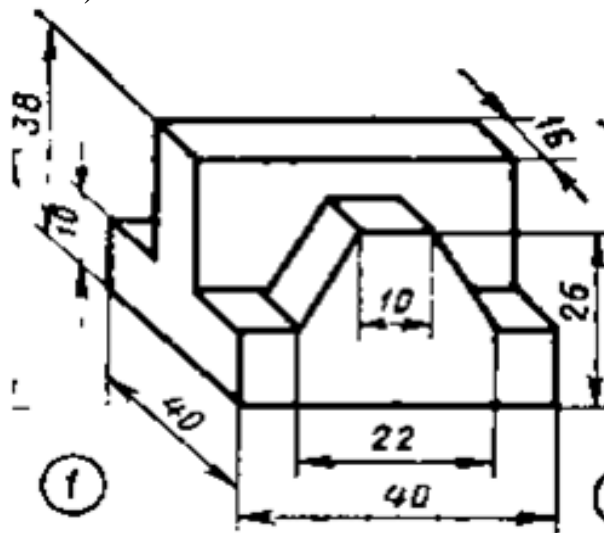

Figure 5.1 – Isometric part model
5.2.2 In the course of the drawing, we use such AutoCad commands as "Circle", "Rectangle", "Line" and others, which are located on the "Drawing" panel. Also, if the part is symmetrical, start by drawing centerlines. For example, take the following detail (figure 5.1).